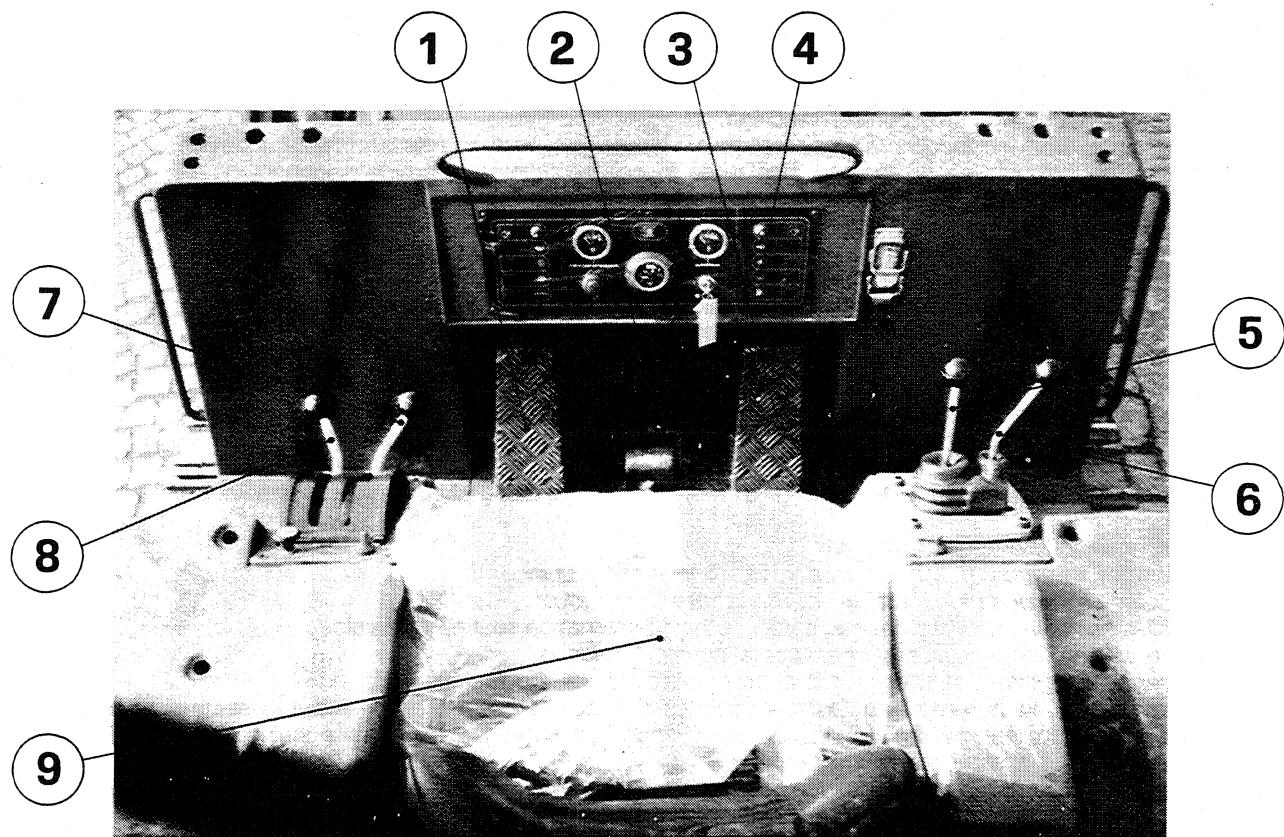
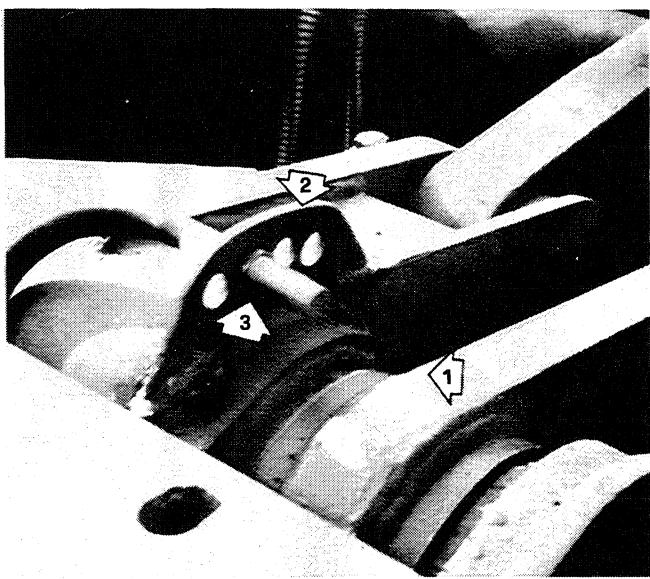
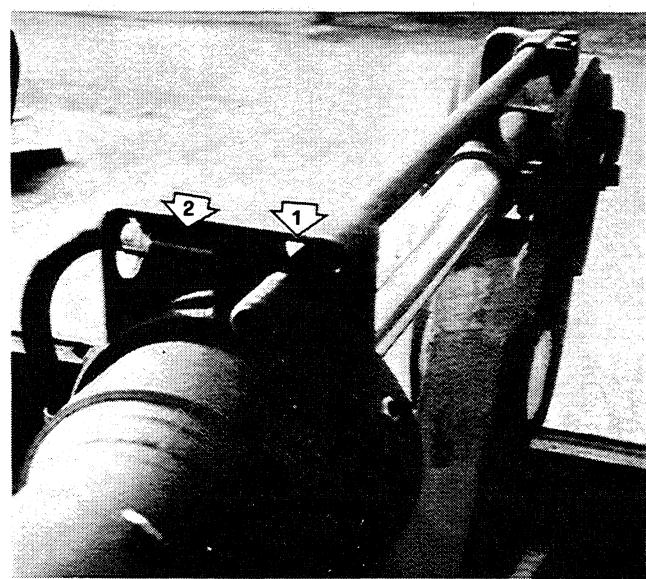

Fig. 3
Fig. 8
Fig. 9
Actuating this button will engage and disengage the proximity switches (Pos. 3 – fig. 8 and Pos. 2 – fig. 9). Their operation is monitored by the warning light (Pos. 15 – fig. 3) on dashboard.
The proximity switches (Pos. 3 – fig. 8 and Pos. 2 – fig. 9) are fitted in order to:
- 1) automatically interrupt boom lift when the preset height is reached. This height is adjustable by placing the proximity switches in the different openings (Pos. 2 – fig. 8).
This will be achieved as soon as the plates (Pos. 1 – fig. 8 and Pos. 1 – fig. 9) will meet the proximity switches and so enter their magnetic field.